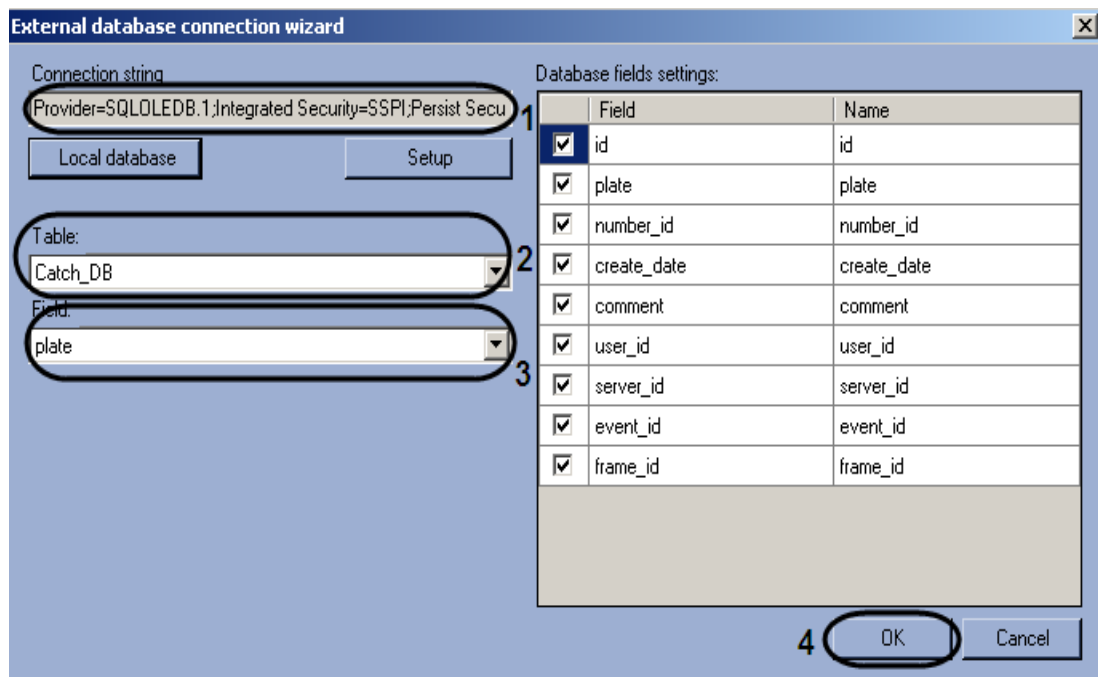

Fig. 7.6—6 Column selection with vehicle plates
7. In the «Table» list (Fig. 7.6—6, 2) the names of tables in the selected database are displayed. Select the table, containing vehicle plates from the list.